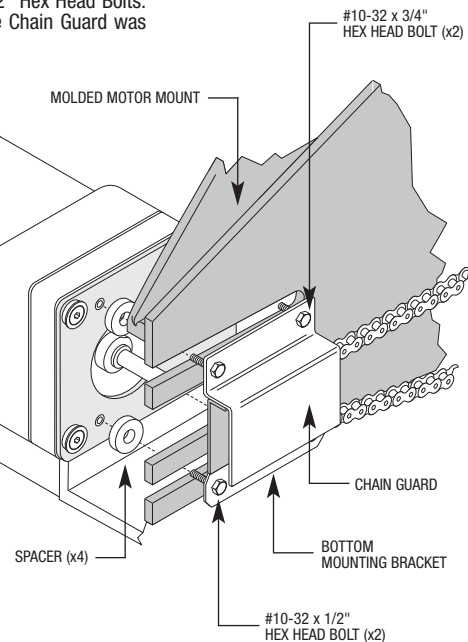

Figure 4
- 8) With the mounting brackets in a horizontal position and mounted loosely to the mounting plate, reinstall the motor into the molded motor mount of the processor by sliding the motor up through the bottom of the processor. The spacers that are loosely mounted to the mounting brackets should be on the inside of the molded motor mount, and the mounting brackets should be on the outside of the molded motor mount. See **Figure 4**.